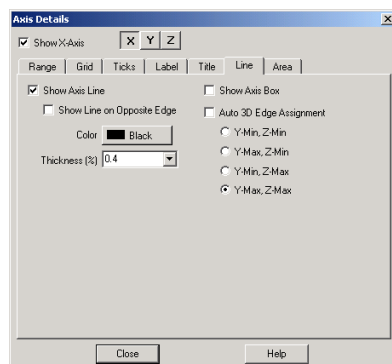

Figure 17-15. The Line page of the Axis Details dialog.
2. Click Line to call up the Line page of the Axis Details dialog, as shown in Figure 17-15.